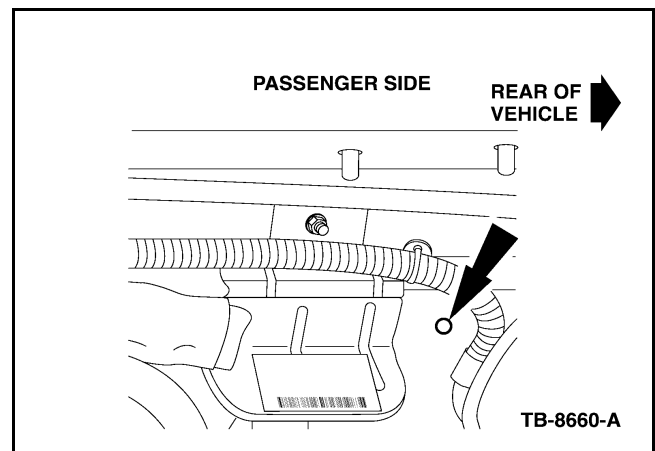

Figure 1 - Article 07-20-6
IF A HOLE HAS BEEN DRILLED IN THE LOWER REAR CORNER OF THE RECTANGLE BRACKET (FIGURE 1) GO TO STEP 5. IF THE VEHICLE WAS BUILT AFTER 8/14/2006 DRILLING A 1/4" HOLE IS NOT REQUIRED.
3. Drill a 1/4" (6.7 mm) hole, 3/4" (20 mm) rearward from the lower rear corner of the rectangle. (Figure 1)